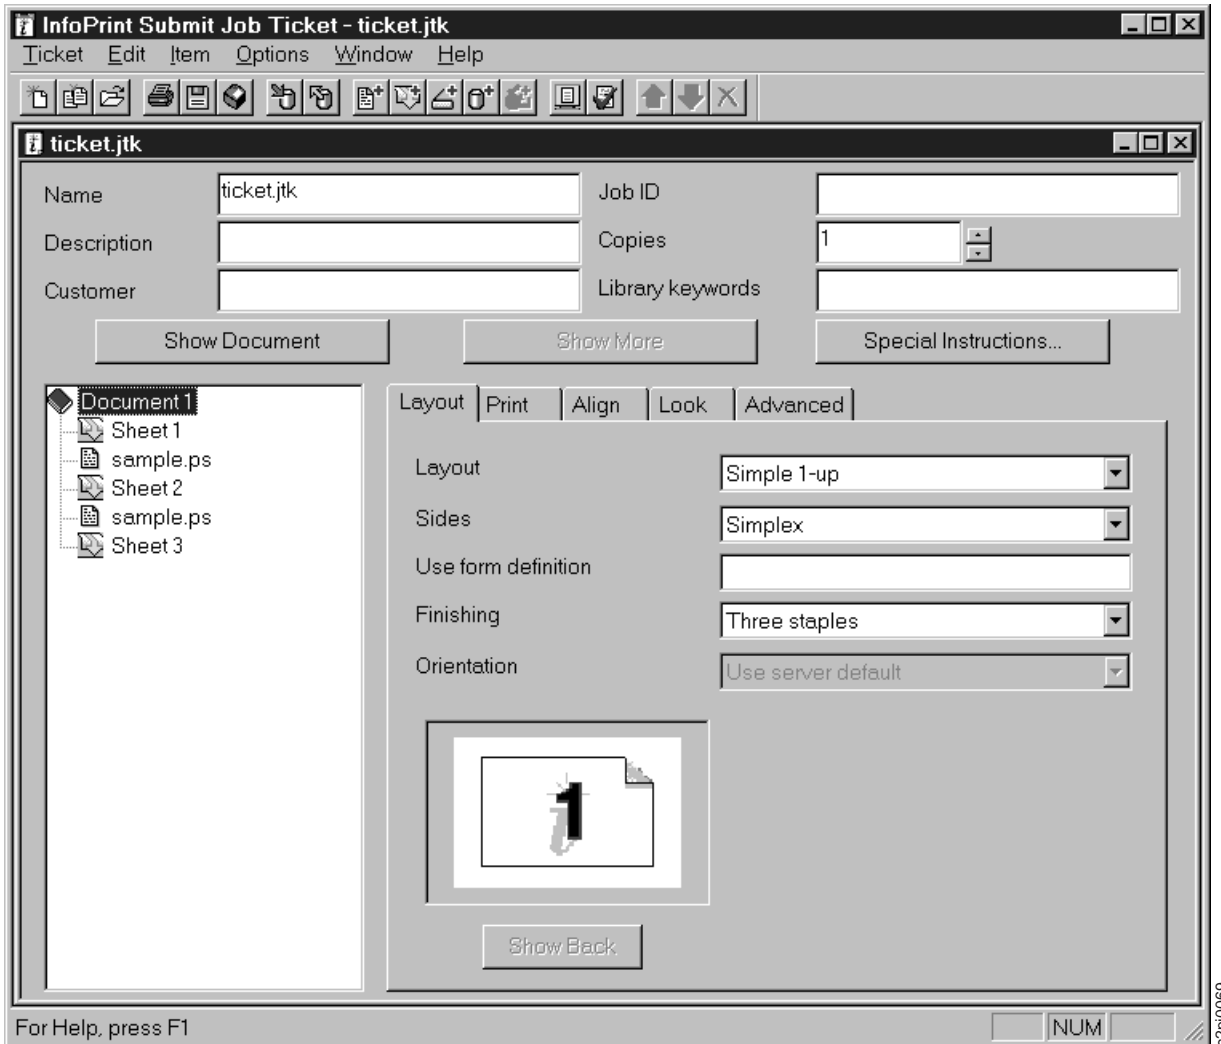

Figure 35. Edge-Stitched Document with Tabbed Inserts - Layout Tab
1. From the InfoPrint Submit Job Ticket window (Figure 35), insert the sheets and files to be printed or finished:
2. Select the "Layout" tab. You see Edge-Stitched Document with Tabbed Inserts - Layout Figure 35.